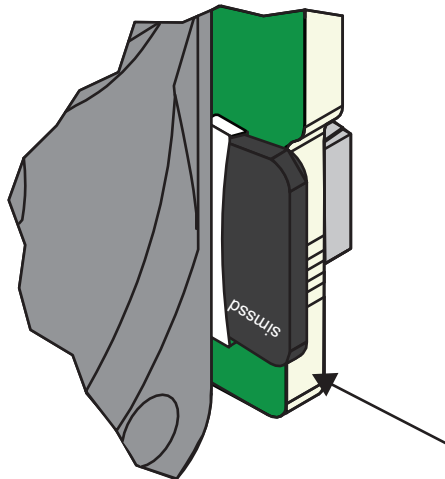

Figure 6 Positioning the Micro SD Card
2. Orient the Micro SD card so that the printed side faces the fan and the print is upside down. (**Figure 6**)